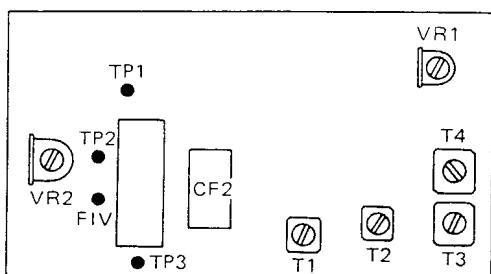

Fig. 20 FM-IF unit
- 2) Change the SSG output signal, making it exhibit a frequency deviation of 1 kHz or 5 kHz. Adjust T3 and T4 (Fig. 20) to obtain the best possible waveform display and to maximize the FM output in each case of frequency deviation.
Connect the AF VTVM to F1V terminal of FM-IF unit, referring to Fig. 20, and adjust VR2 for 20 mV reading.